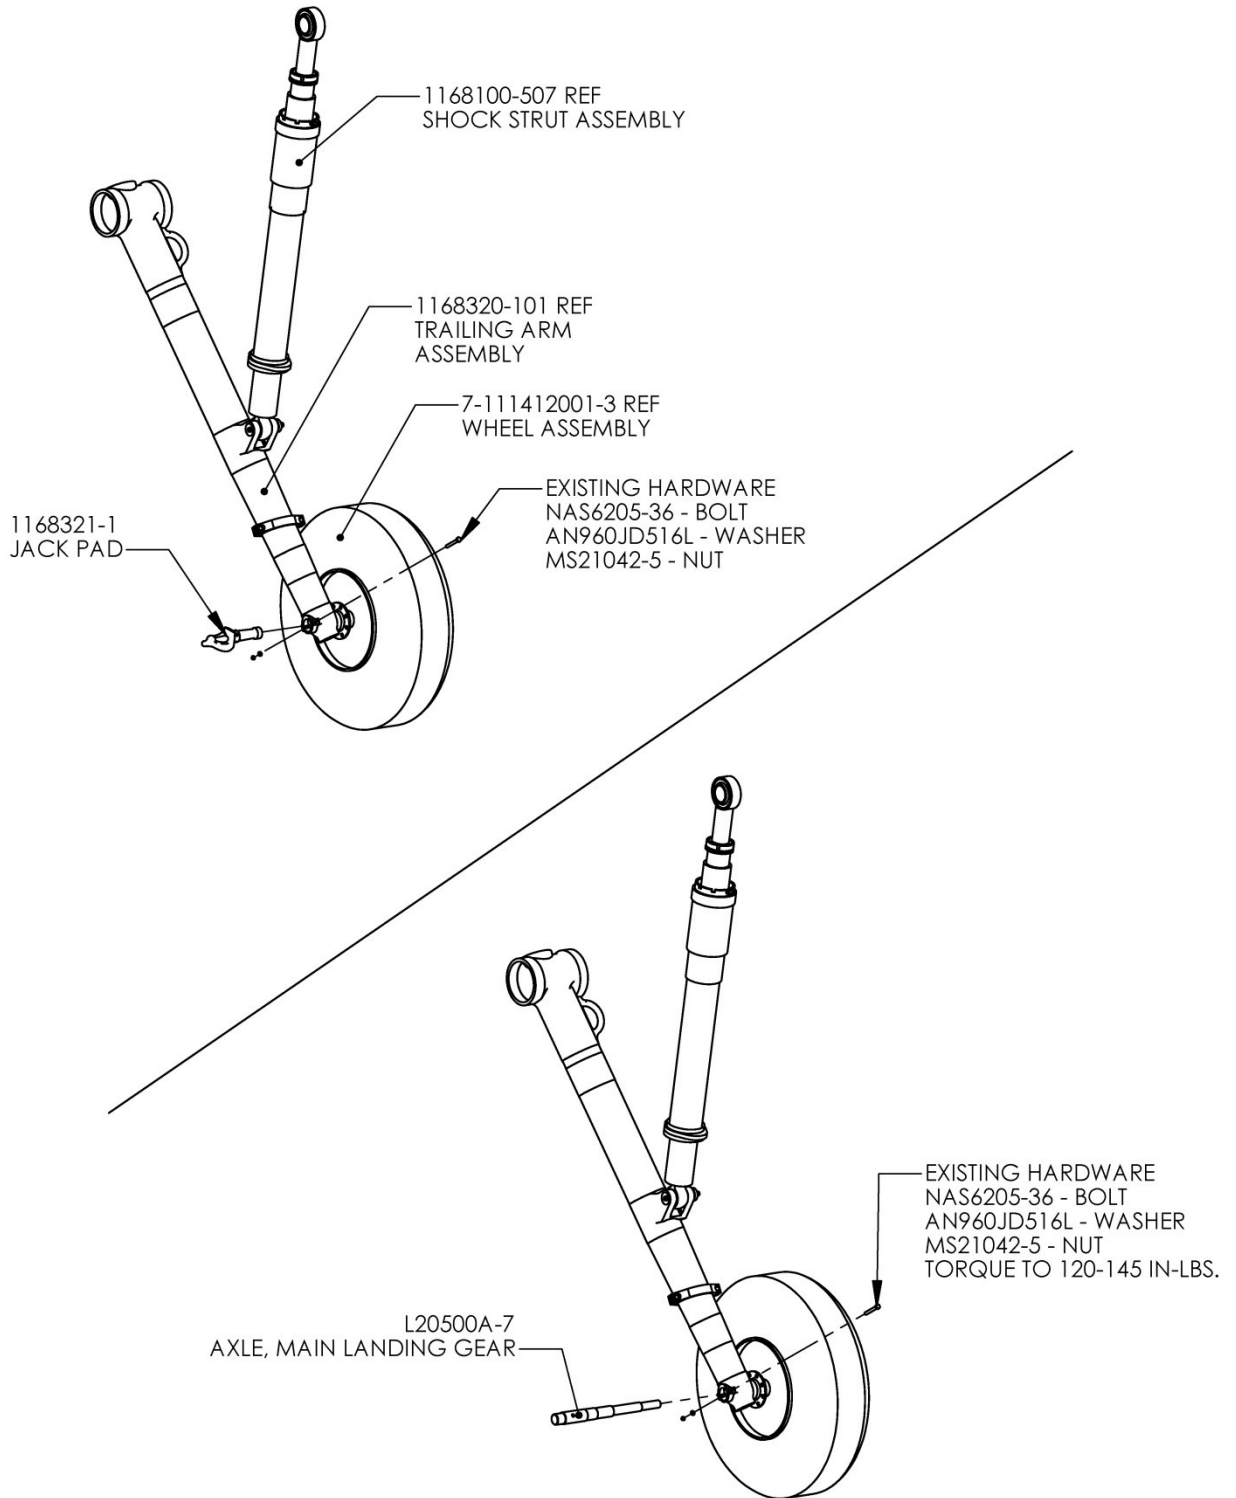

Figure 3.2
14. Remove Jack Pad (1168321-1). Keep existing hardware. *See Figure 3.2*
15. Slide Axle, Main Landing Gear (L20500A-7) into the Trailing Arm (1168320-101) axle housing. *See Figure 3.2*
17. Re-install existing hardware from Step 14 to hold Axle (L20500A-7) in place. *See Figure 3.2* TORQUE VALUE